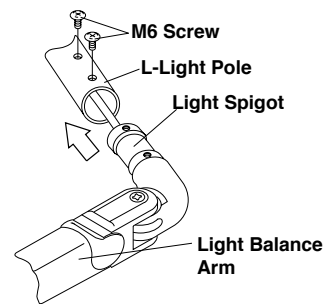

Fig.6-14 Fixing the Dental Light to L-Light Pole
B. Pass the light wires through the L-light pole and insert the light spigot into the light pole and fix it with 2 x M6 screws. **(Fig.6-14)**